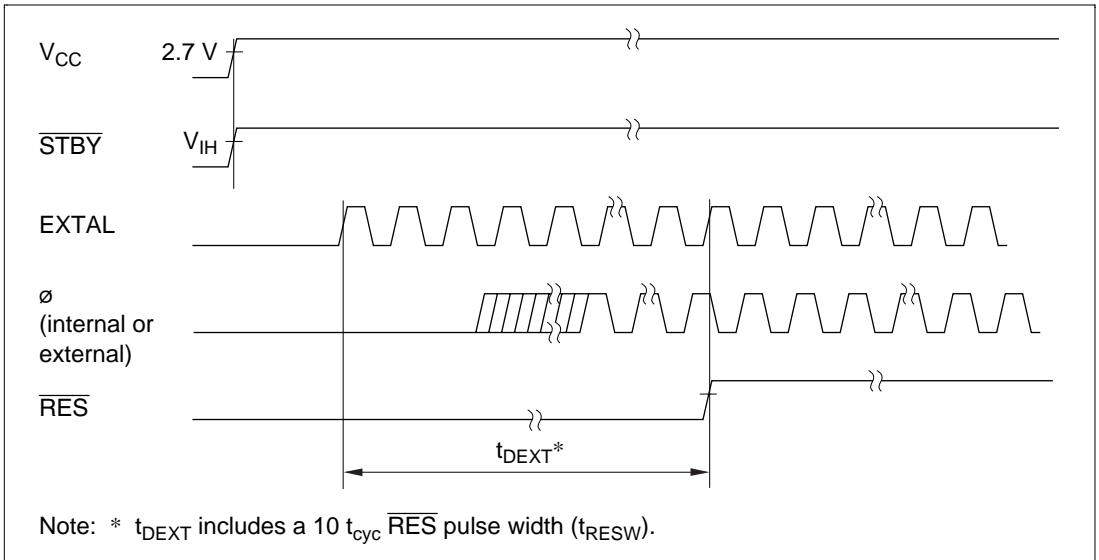

Figure 19.25 External Clock Output Stabilization Delay Time
19.3.9 External Clk Output Timing	Figure 19.25